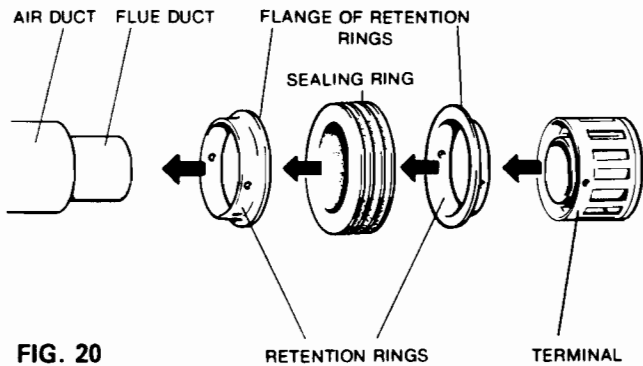

FIG. 20
c) Assemble the retention and sealing rings by sliding one retention ring over the air duct followed by the sealing ring, and then the remaining retention ring, as shown in (Fig. 20) leave loose. Fully locate the ends of both ducts into the terminal.